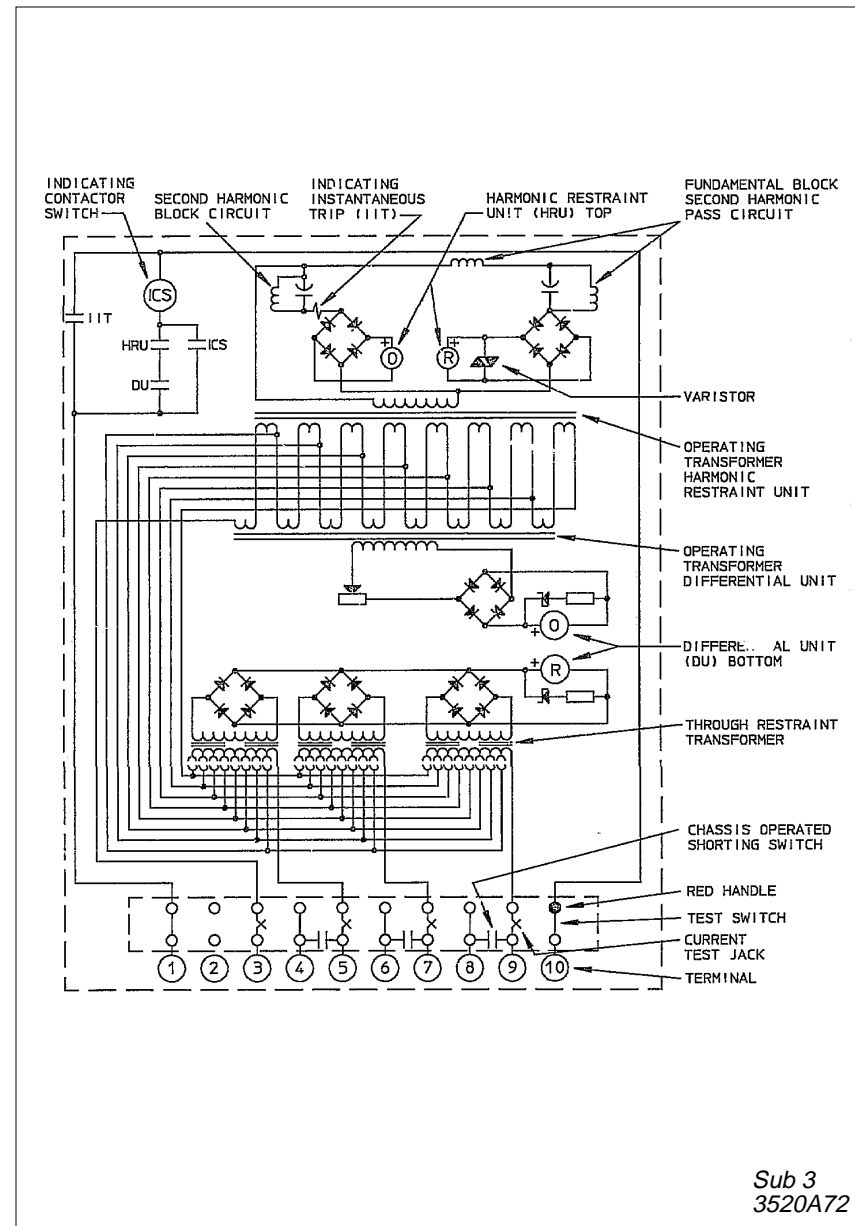

Figure 4. Internal Schematic of the Type HU-1 Relay in FT-31 Case.
The types HU and HU-1 are connected to the protected transformer as shown in figure 4. In such a connection, the relays operate to protect the transformer for faults internal to the differential zone of the transformer, but not for faults external to the zone. Neither do the relays operate on magnetizing inrush currents associated with energization of the transformer, even though these currents may appear as an internal fault. To avoid these false operations, each unit of the relay performs a separate function. The differential unit (DU) prevents operation on external faults, while the harmonic-restraint unit (HRU) prevent operations on magnetizing inrush currents. Hence, the operation of the relay can best be described under the headings of external fault current, internal fault currents, and magnetizing inrush currents.